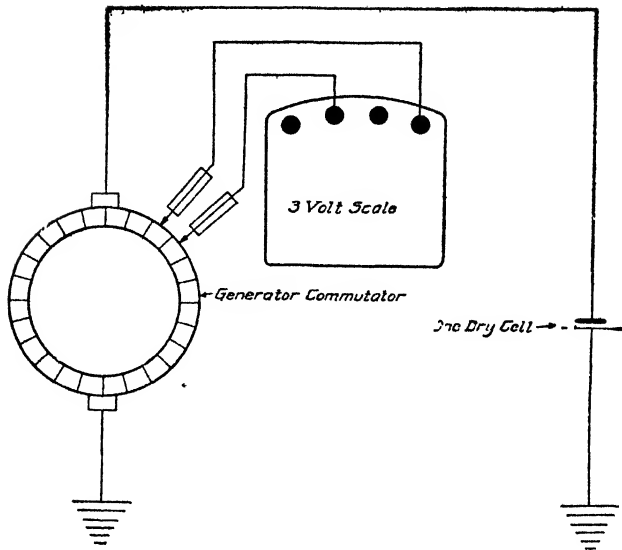

Fig 57 Diagram of Set-Up when Coils Are Open-Circuited
(1) *Open-Circuited Coils.* Connect the brushes to the terminals of the dry cell so that a current of about 10 amperes is flowing through the brushes. The field should be entirely disconnected and its terminals either taped or held out of the way. Then, with a special pair of points connected to the voltmeter using the 3-volt scale, measure the voltage across each two adjacent commutator bars. If there is an open-circuited coil in the armature, the voltage reading will increase considerably, Fig. 57.